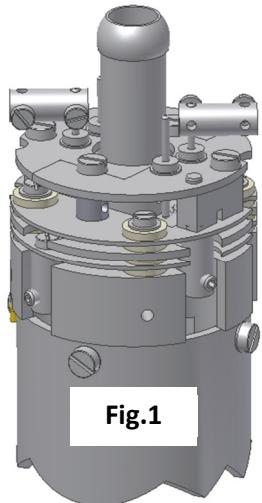

Fig.1
2. The filaments are located on the very top of the analyser, retained by two M2 x4 pan head screws. The electrical connections are made via three barrel connectors, one to each filament and one to filament common, see Fig.1.
2. The filaments are located on the very top of the analyser, retained by four M2 x4 pan head screws. The electrical connections are made via two barrel connectors, one to each filament, see Fig.1.